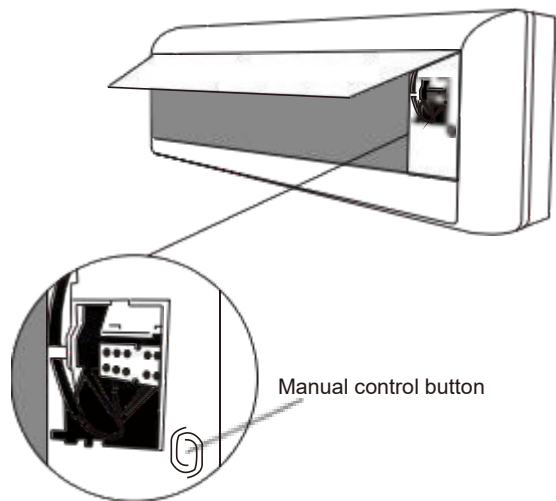

Fig. 10.1
2. The **MANUAL CONTROL** button is located on the right-hand side of the unit. Press it twice to select the COOL function. See **Fig 10.1**.